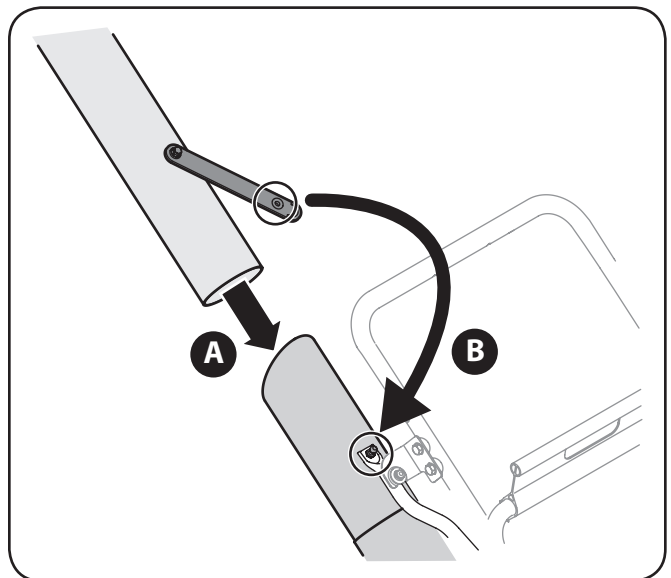

Figure 5-5
- b. Secure strap on hose extension to pin on hose assembly. See Figure 5-5.